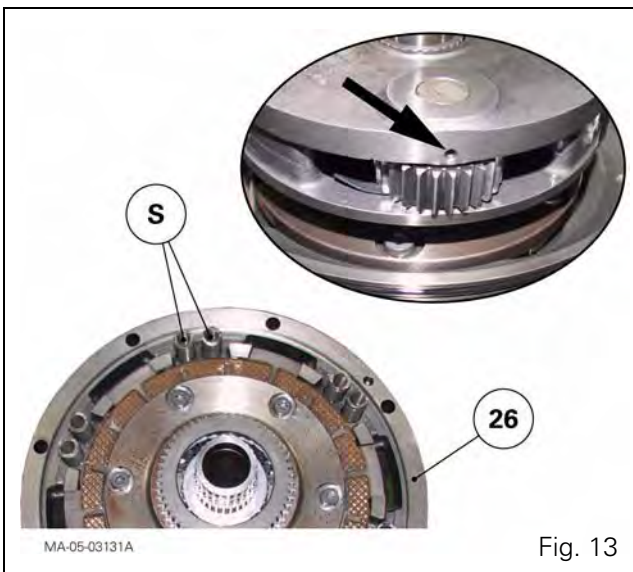

Fig. 13
14. Check that the return springs (S Fig. 13) are present in the cover (26).